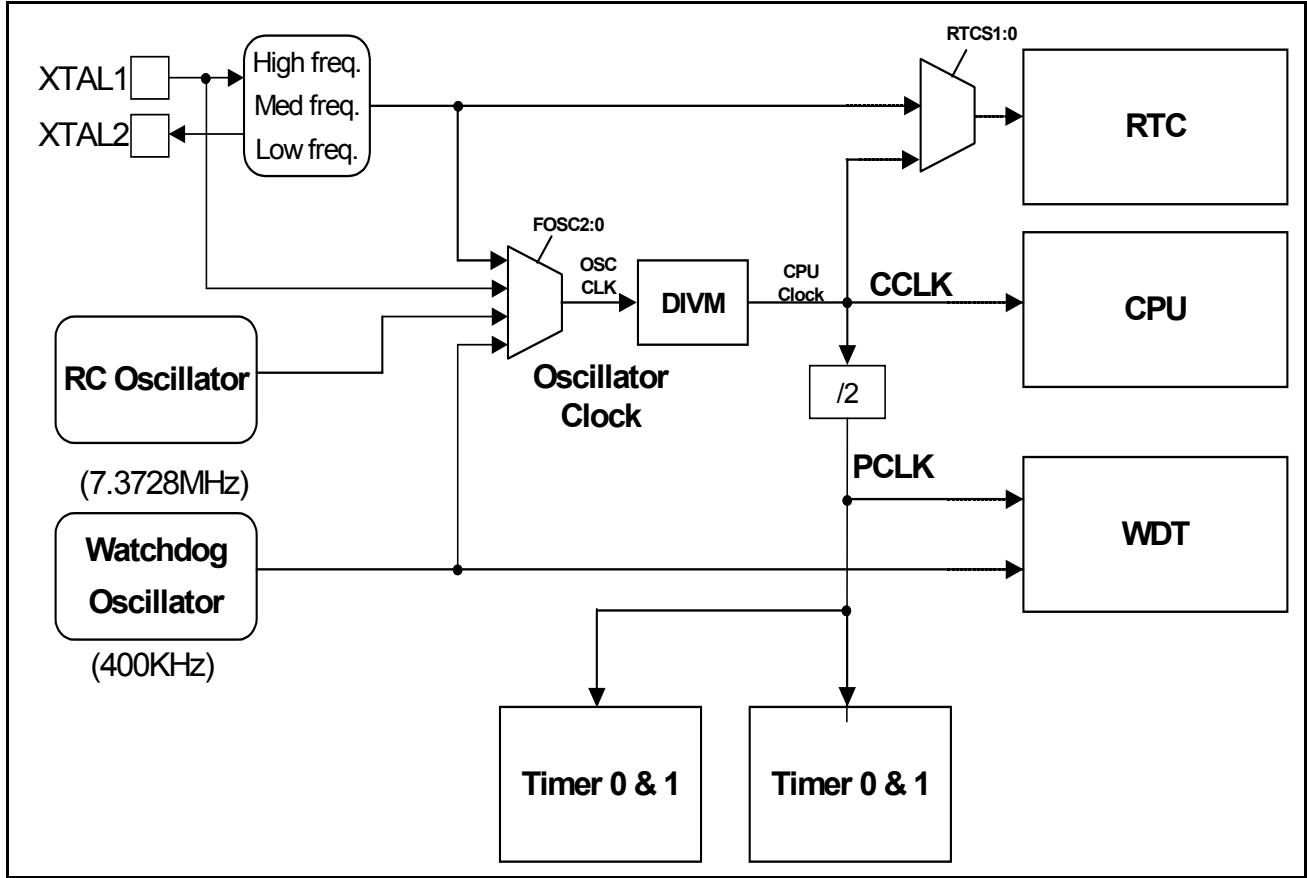
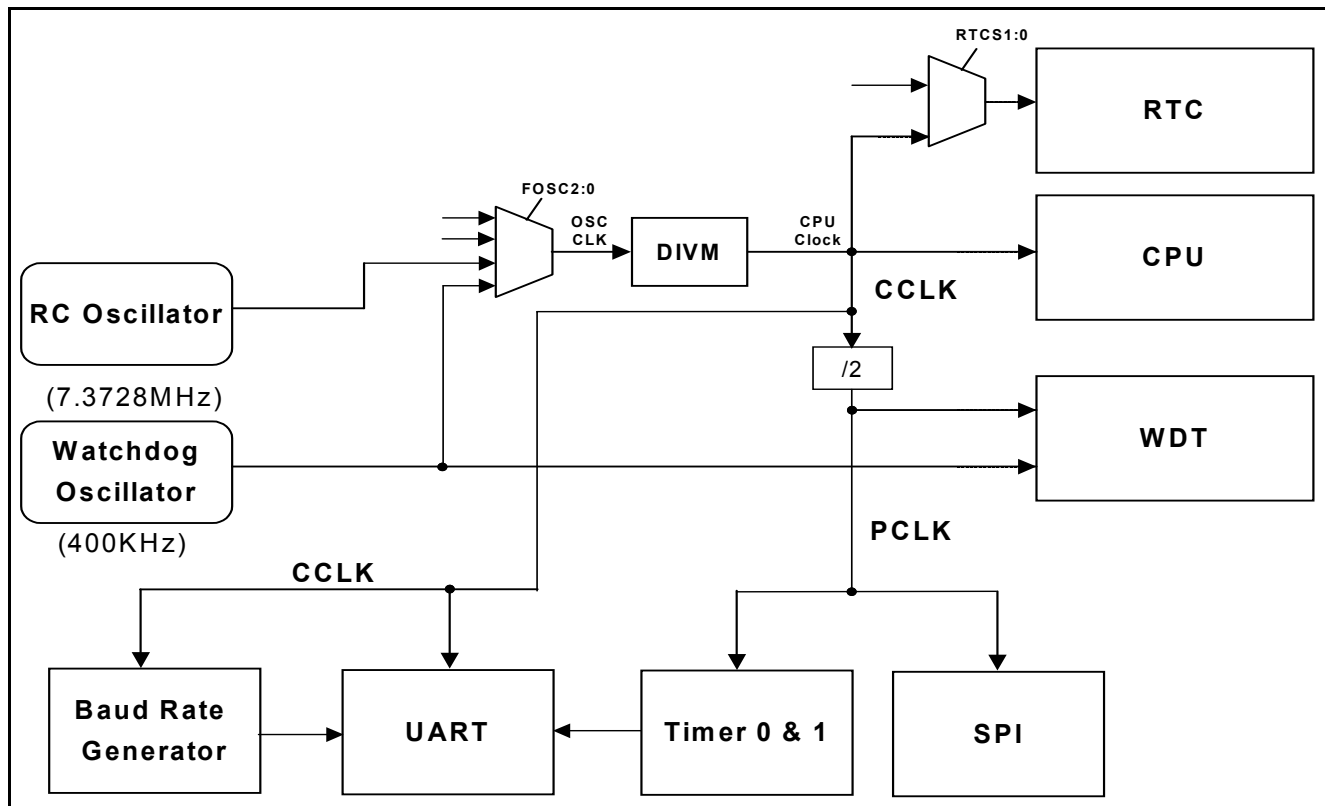

Figure 2-3: Block Diagram of Oscillator Control - P89LPC912
Figure 2-5: Block Diagram of Oscillator Control- P89LPC914
- OSCCLK - Input to the DIVM clock divider. OSCCLK is selected from one of the clock sources (see Figure 2-3, Figure 2-5,) and can also be optionally divided to a slower frequency (see section "CPU Clock (CCLK) Modification: DIVM Register"). **Note:** f_{OSC} is defined as the OSCCLK frequency.